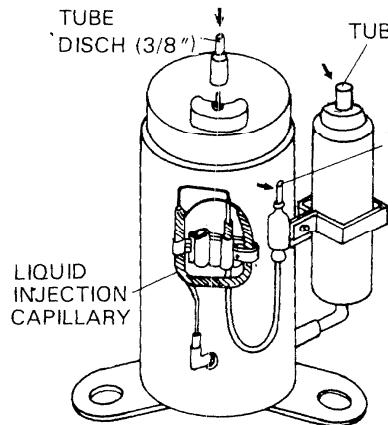

Fig. 18A
- 5) With an Oxy-Acetylne torch apply heat uniformly and unbraze the joints of upper section of the Liquid Injection Capillary tube to the compressor, the upper section of the accumulator and the upper section of the compressor discharge tube respectively, and pull them free with pliers. Fig. 18A shows unbrazing points with arrows.